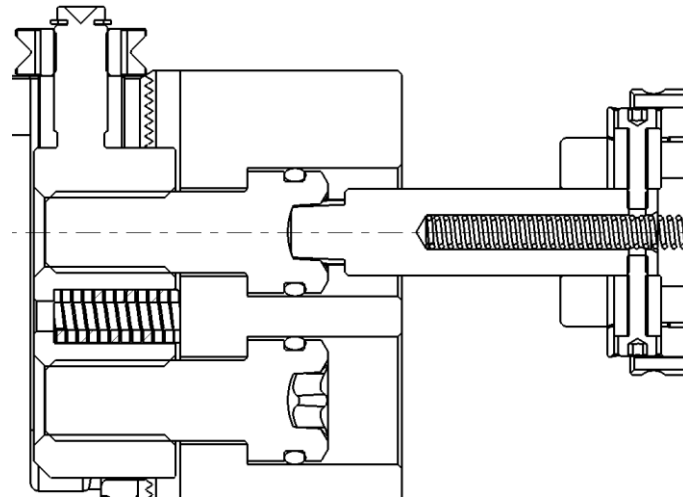

Figure 29
- ③ Insert the wrench in the mounting bolt hole (Figure 29).